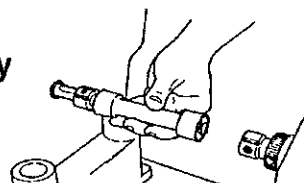

Fig.B-2
5. Place the power coupler (71) on the Bandsaw's drive hub. See Fig.B-2.